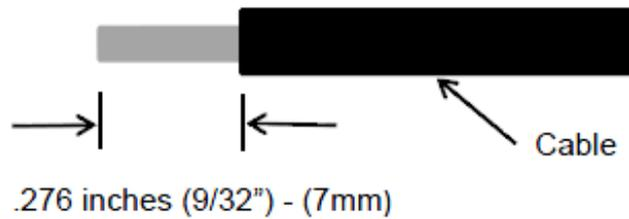

Figure 4-19
- Strip the cable 7 mm, see Figure4-19.